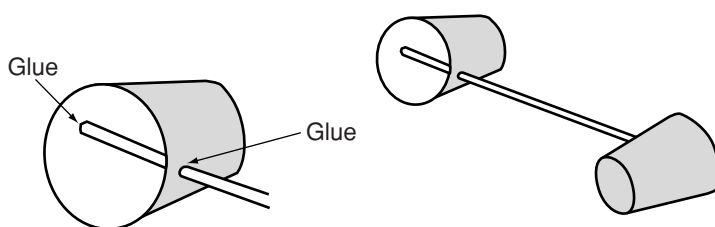

Figure 1.
2. Push a straw through the hole of one of the cups. Hot glue the end of the straw to the inside wall of the cup. Also glue the straw to the side of the cup where the hole was punched (see Figure 1).